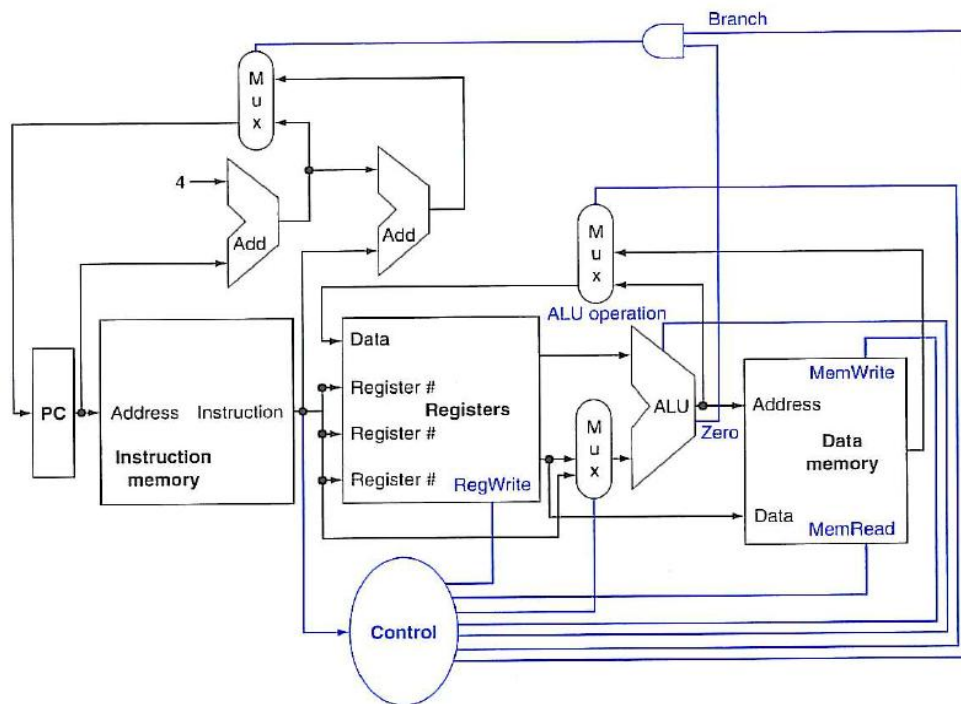

Figure 1
1. In the basic single-cycle implementation, different instructions utilize different hardware blocks. For each of the following instructions, what are the values of control signals generated by the control in Figure 1? Which resources (blocks) perform a useful function for each instruction? Which resources (blocks) produce outputs, but these outputs are not used for the instruction? Which resources produce no outputs for the instruction?